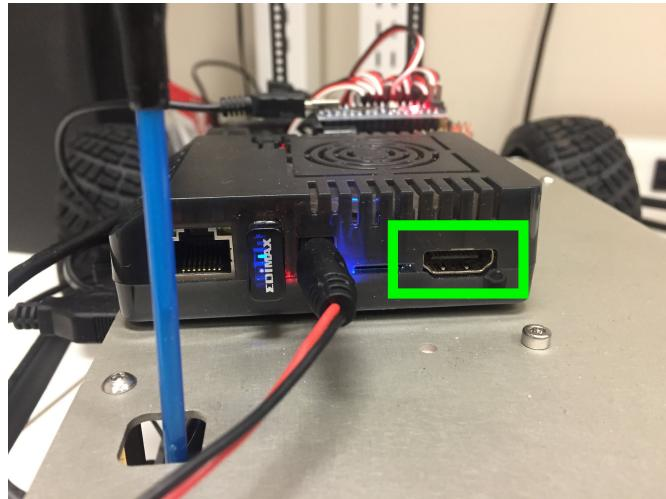

Figure 5
1. Connect the Odroid to a monitor using an HDMI cable. Fig. 5 shows the Odroid's HDMI port.